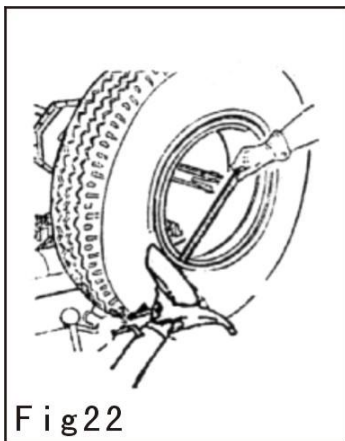

Fig 22
5) As shown in Fig 22, use the crowbar to place the open of the ring to the rim of the rim of the wheel and then rotate the shaft.